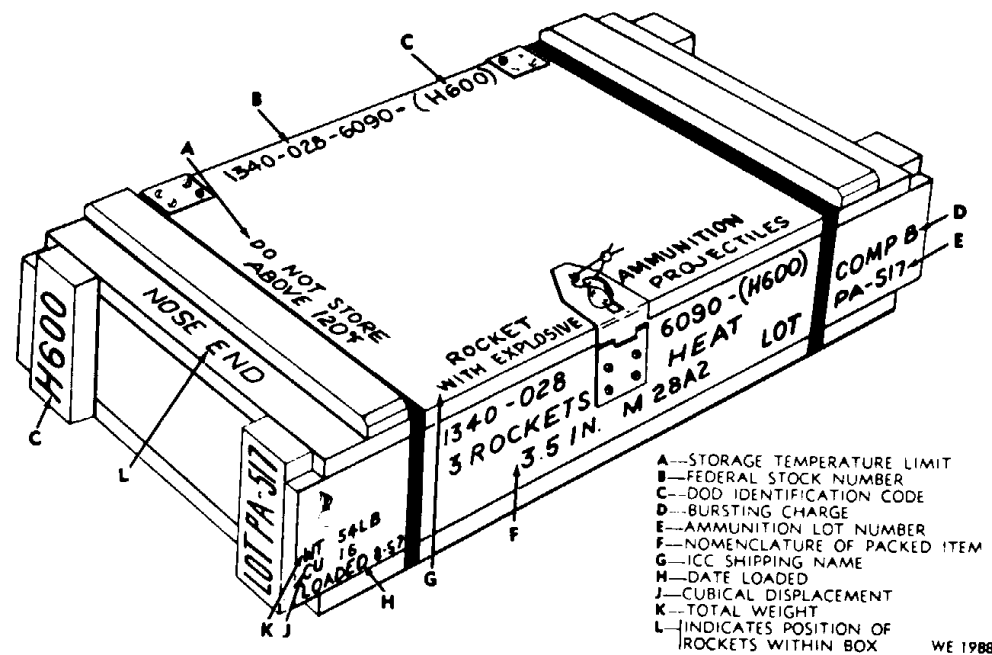

Figure 4-4. Packing box for 3.5-inch ammunition.
a. Packing. The 3.5-inch rocket ammunition is packed as follows: one rocket in either a fiber or a metal container, three containers (three rockets) per wooden box (fig. 4-4). The overall dimensions of the packing box are approximately $29\frac{1}{4} \times 13\frac{7}{8} \times 6\frac{5}{8}$. The total weight is approximately 54 pounds and the cubical displacement approximately 1.6 cubic feet.
- (1) ICC nomenclature.
- (2) Federal Stock Number and Department of Defense Identification Code.
- (3) Storage temperature limits.
- (4) End of box in which fuze or nose is pointed is marked "Nose End".
- (5) Ordnance insignia.
- (6) Gross weight.
- (7) Cubical displacement.
- (8) Month and year loaded.
- (9) Ammunition lot number.